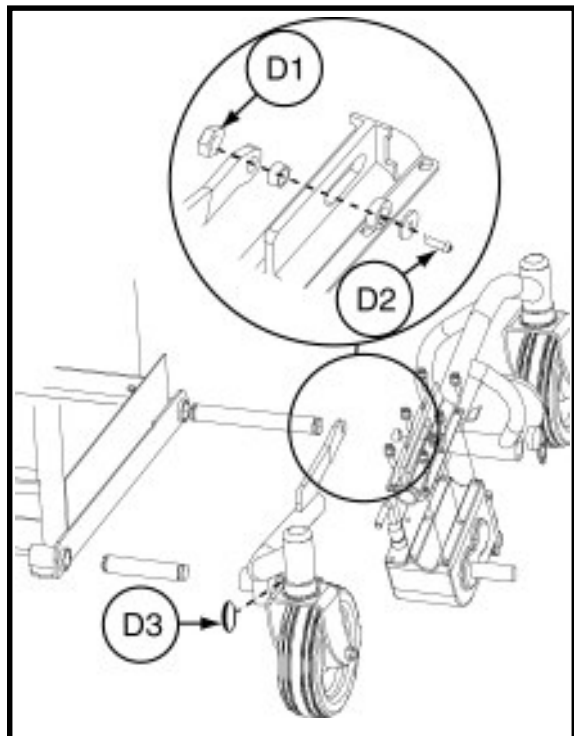

Figure 3. Left Front Caster
2. Remove the 17-mm nut (D1) and corresponding Phillips-head screw (D2) that hold the front caster arm to the rear caster area. See figure 3.